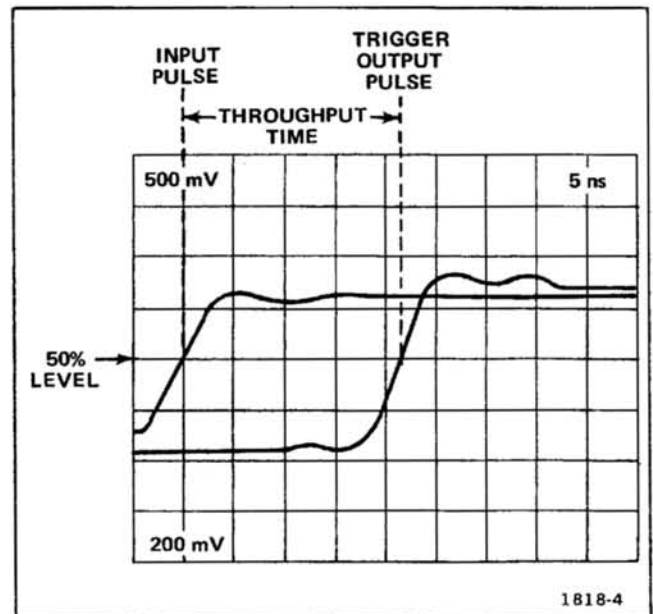

Fig. 5-2. Simulated display of the time relationship between the input and the delayed trigger output signals.
e. CHECK—Time difference between two pulses (at 50% level) for less than 30 nanoseconds. Refer to Fig. 5-2.